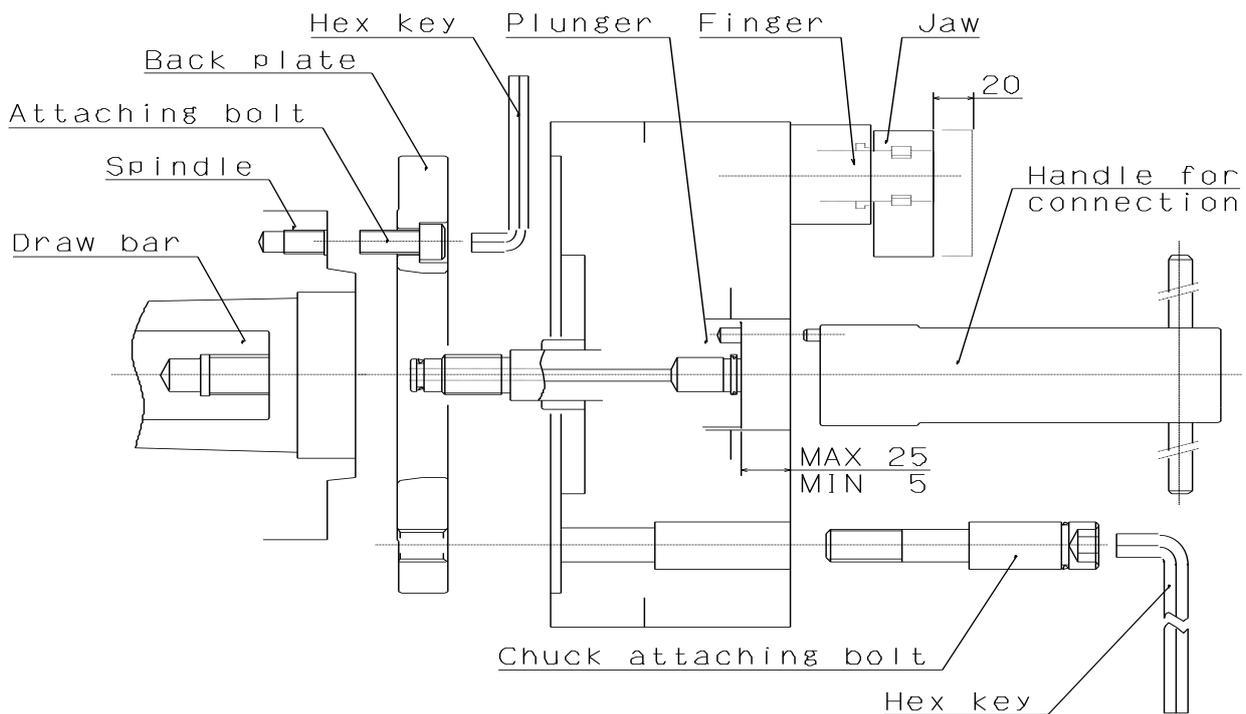

Fig.13
- The appropriate position of the plunger at the cylinder forward end is the position when the dimension MIN 5 in Fig.13 becomes as shown in the table below.